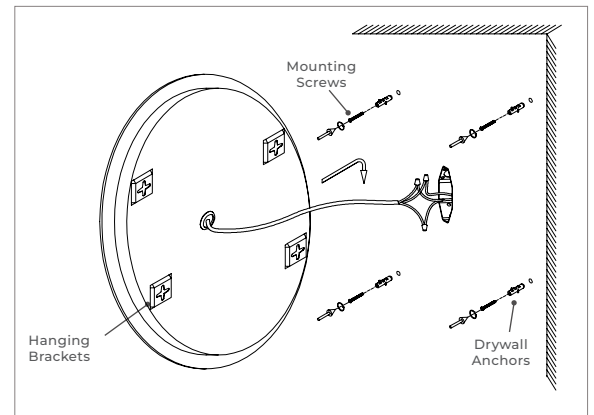

FIGURE 2
**B)** Review the back of the mirror and measure the exact locations of the hanging brackets. We recommend measuring each hanging bracket from the center lines of the mirror. Then using those measurements, mark the hanging bracket locations on the wall to accurately drill the holes for drywall anchors and hanging hardware. Double check the measurements for each drill hole location to ensure they match the measurements for the hanging brackets on the mirror. (FIGURE 2)
**C)** Drill mounting holes into the wall and insert drywall anchors. Insert mounting screws into drywall anchors and leave approximately ¼inch of the screw head visible for hanging the mirror on wall. (FIGURE 2)